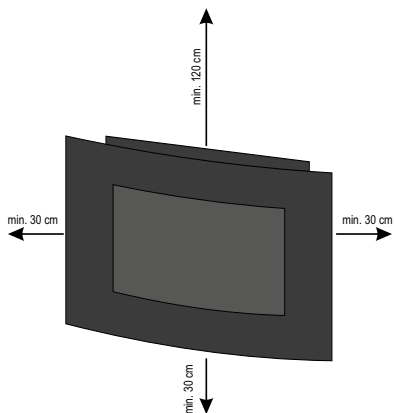

Figure 2 • 2.ábra • 2. obrázok • fig. 2. • 2. skica • 2. obrázek • Slika 2.
4. Never locate the unit directly in corners and observe the minimum locating distances indicated in Figure 2. Always observe the health and safety regulations valid in the country of use.
2. Choose the wall surface for mounting the fireplace taking Figures 2 and 3 into consideration. Please take into account that the length of the power cable is 1,7 m.